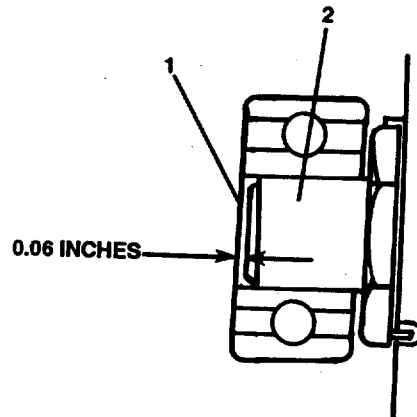

FIGURE 3-63. *Bearing End Clearance.*
- (2) Leave a distance of 0.12 inch between front face of bearing (1, FIGURE 3-63) inner race and the end of clutch shaft (2).